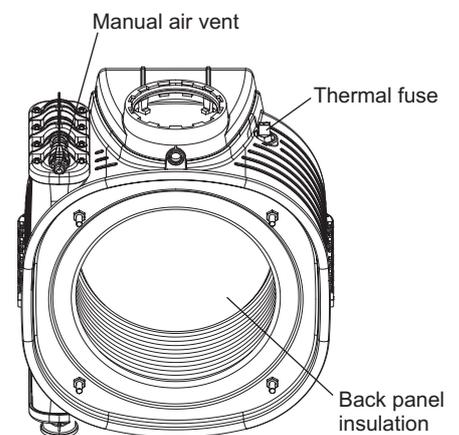

Fig. 33
Back panel insulation - Fig. 33
7.19 HEAT EXCHANGER THERMAL FUSE - Fig. 33